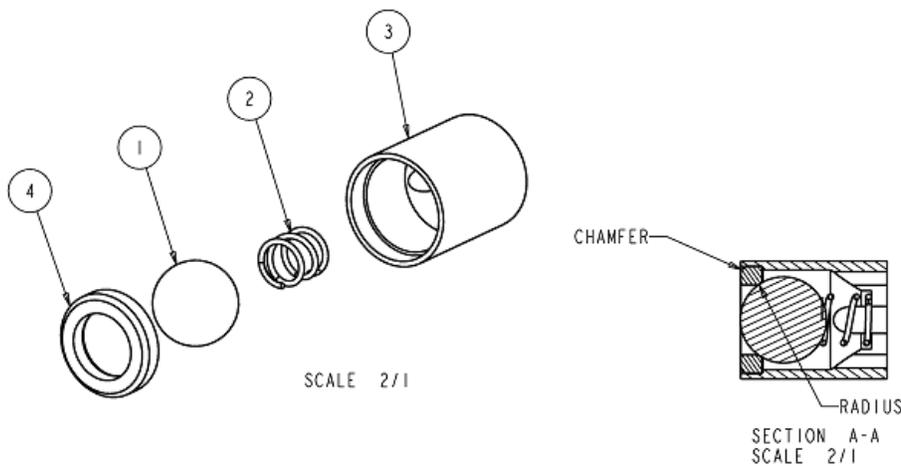

Figure 47: PR70 Check Valve Rebuild Kit (LC0093)
- With a bucket below the check valve to be replaced, disconnect the male hose fitting from the check valve housing (13), by loosening the hose from the housing. Catch any material draining from the hose into the bucket.
- Remove the check valve housing (13) from the pump endcap (8) by loosening the housing with a wrench.
- Remove the existing check valve (14) from the housing (13) by inserting a screwdriver or dowel rod into the female threaded end of the check valve housing.
- With the new check valve ball guide (item #3 in figure 43) on a bench with the open end up, install the check valve spring (item 2 of figure 47) into the guide.
- Install the check valve ball (item 1 of figure 47) on top of the spring.
- With the rounded inside surface of the check valve seat (item 4 of figure 47) facing down, place the seat on top of the check valve ball.
- Holding both ends of the assembled check valve assembly, install the check valve into the un-threaded end of the check housing (13) with the ball end facing out. Apply some pressure to the valve to snugly fit the completed check valve into the housing and then fit the check valve seat (item 4 of figure 47) into the valve guide.
- Verify when the assembled check valve and housing (13) are turned up-side down, that the contents of the valve stays in place.